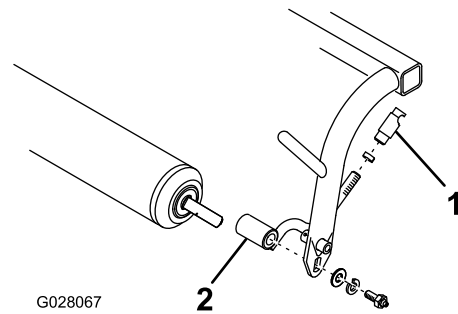

Figure 7
- A. Remove the fasteners securing the roller shaft and pull links to each end of the carrier frame (Figure 7).
- B. Install the roller and new pull-link assemblies to the carrier frame with the previously removed fasteners (Figure 7). Position the pull links so that they bend outward.
- C. Assemble a jam nut and ball joint receiver onto each pull link assembly as shown in Figure 7.